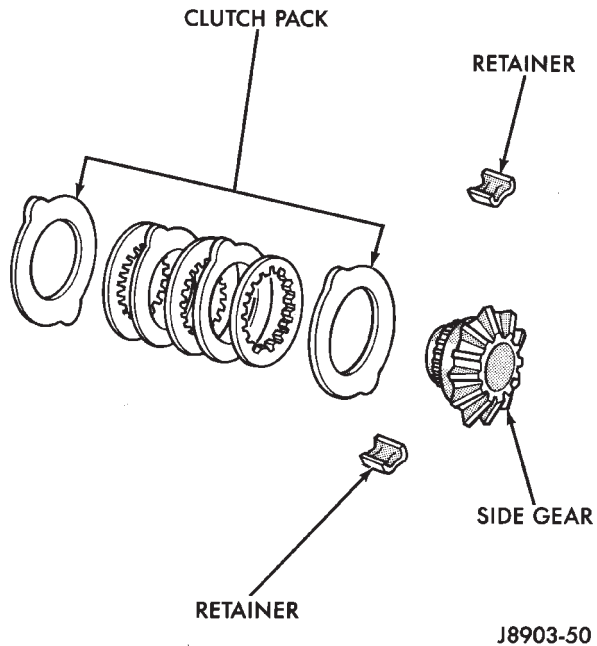

Fig. 45 Clutch Disc Pack
(1) Assemble the clutch discs into packs and secure disc packs with retaining clips (Fig. 45).